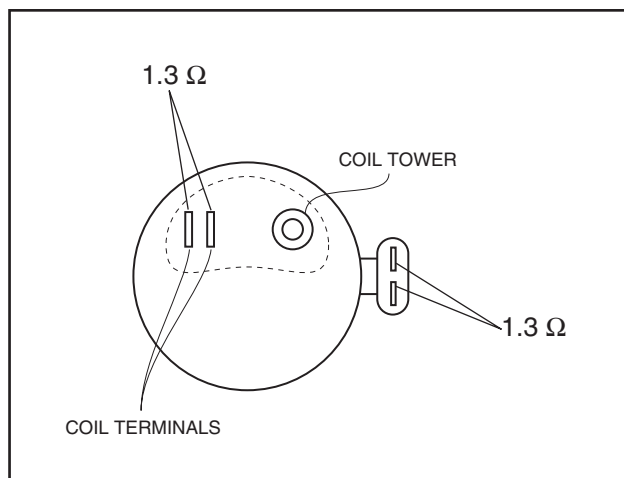

Figure 10. Testing Primary Winding Resistance
1. To test the coil primary winding, connect the test probes of an ohmmeter (or VOM) across the terminals of the coil and read the resistance (see Figure 10). A reading of approximately 1.3 ohms ($\pm 10\%$) should be measured at 68°F (20°C).